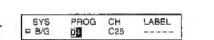

Fig. 5
- Select the second element of the double-digit number with $\Delta+$ or $\nabla-$ or the number buttons (e.g. For »04«, select »4« here) (See Fig. 5.) and press OK.